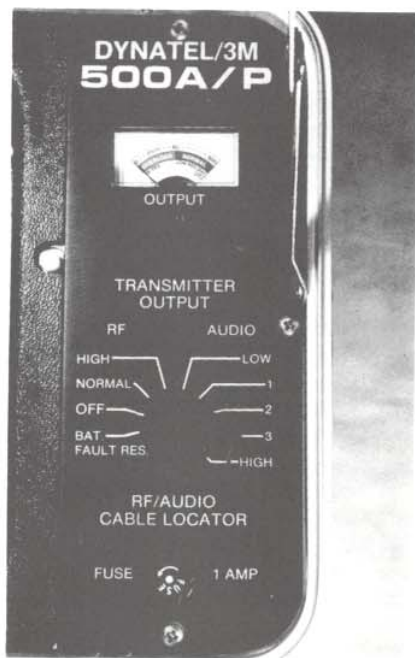

Fig. 3 — The 500A/P Transmitter Unit Control Panel
- (a) The TRANSMITTER (Fig. 3) has a single TRANSMITTER OUTPUT selector switch on the panel next to the accessory storage well. Above the switch is the OUTPUT-Test meter which indicates transmitter output level and Volt/Ohmmeter test conditions.